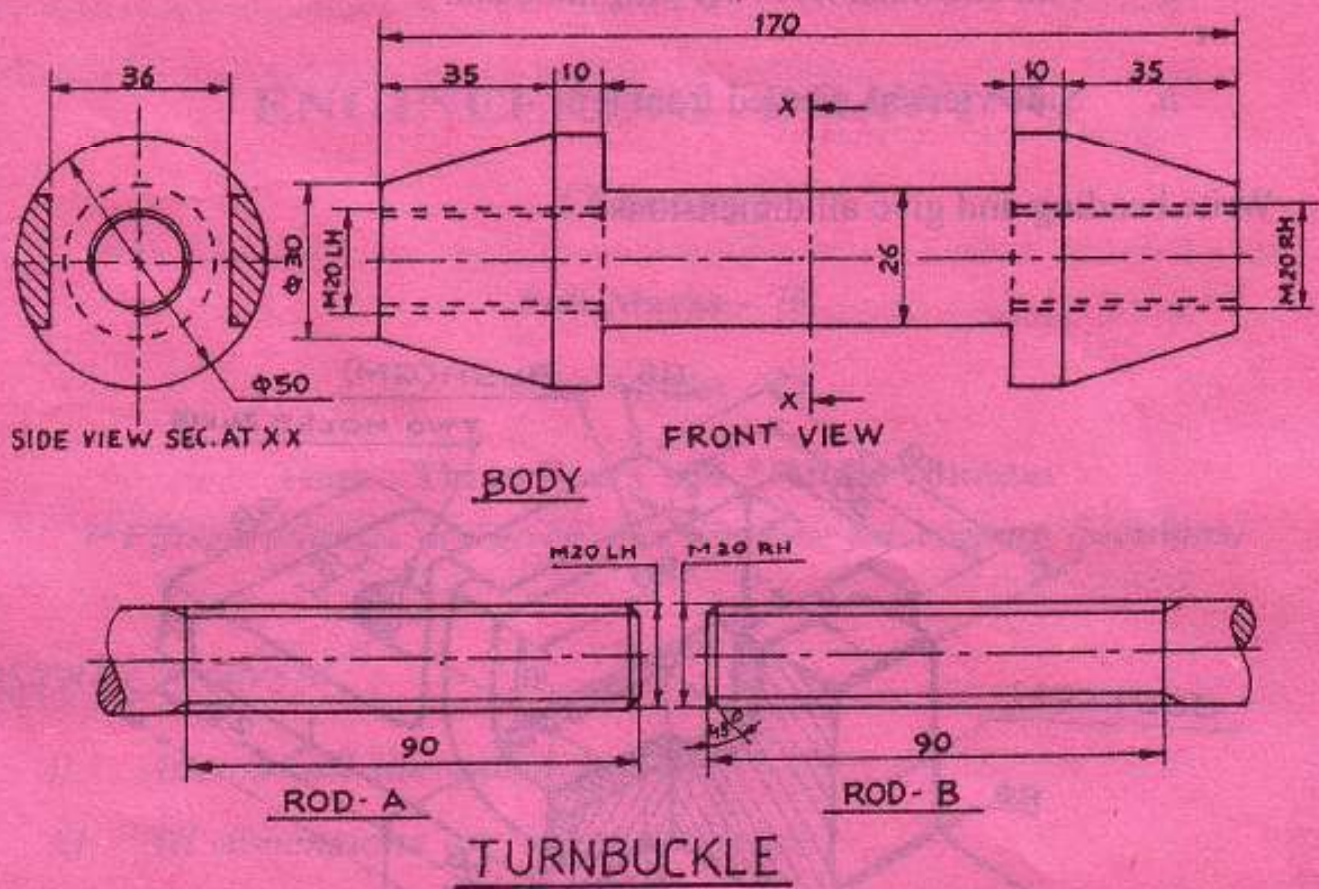

Figure-1
3. Figure-1 shows the details of the parts of a Turnbuckle. Assemble these parts correctly and then draw its following views to scale 1:1, inserting 70 mm threaded portion of each rod, inside the body of the turnbuckle: